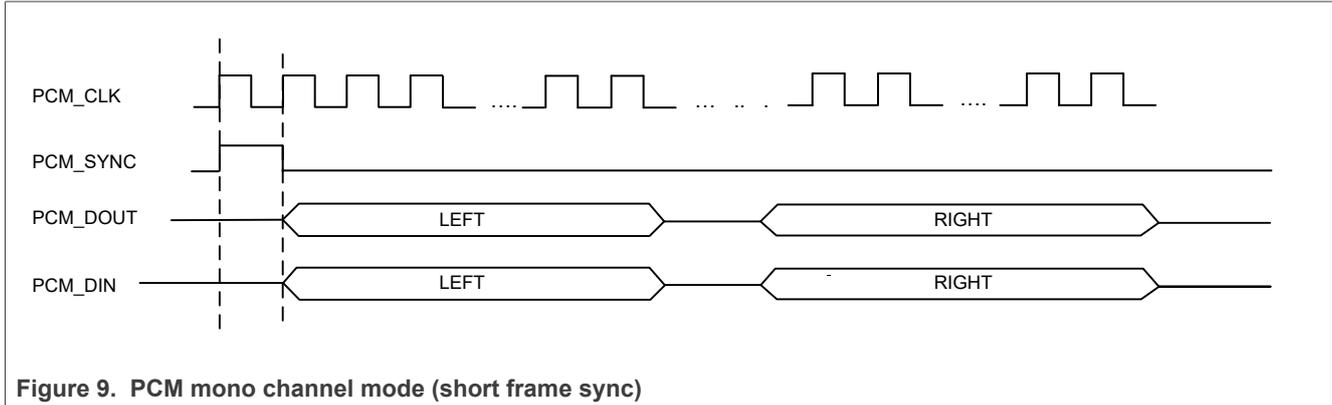
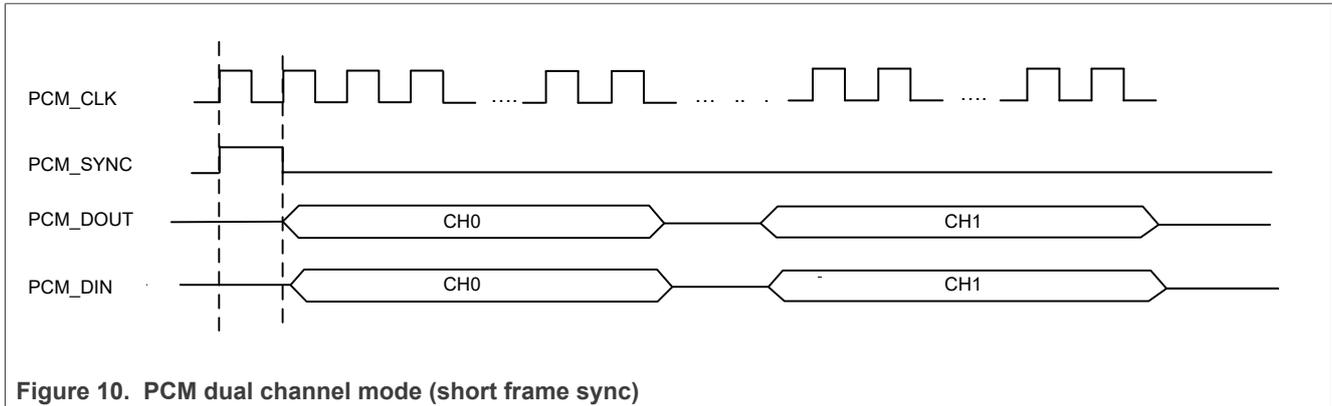

Figure 9. PCM mono channel mode (short frame sync)
Figure 10. PCM dual channel mode (short frame sync)
**Note:** Figure 9 and Figure 10 illustrate PCM mono and dual channel modes in short frame sync. The same applies to long frame sync.